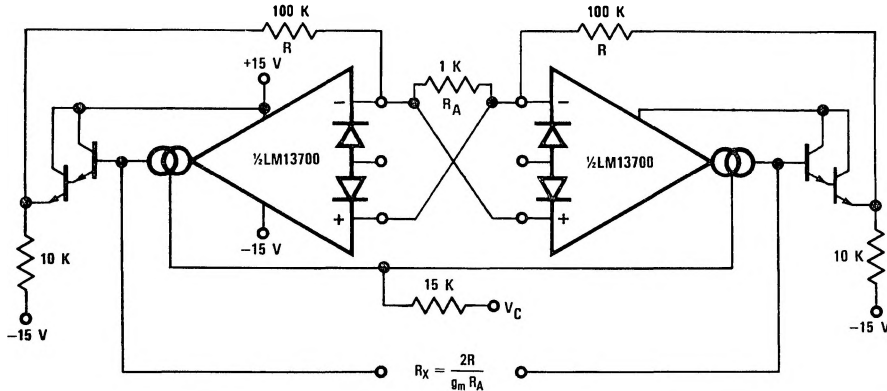

FIGURE 10. Floating Voltage Controlled Resistor
*Figure 9* shows a similar VCR where the linearizing diodes are added, essentially improving the noise performance of the resistor. A floating VCR is shown in *Figure 10*, where each "end" of the "resistor" may be at any voltage within the output voltage range of the LM13700.